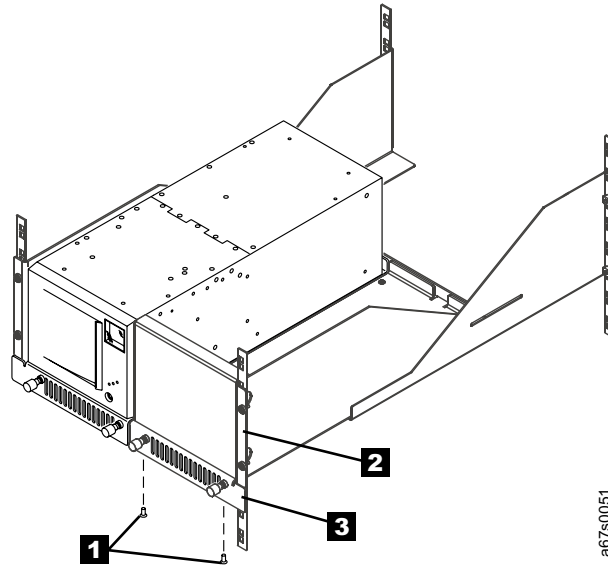

Figure 45. Removing the filler panel to install a second 3581 Tape Autoloader
1. Loosen (but do not remove) the two flat-head screws (see **1** in Figure 45) that secure the filler panel **2** to the right sled **3**.